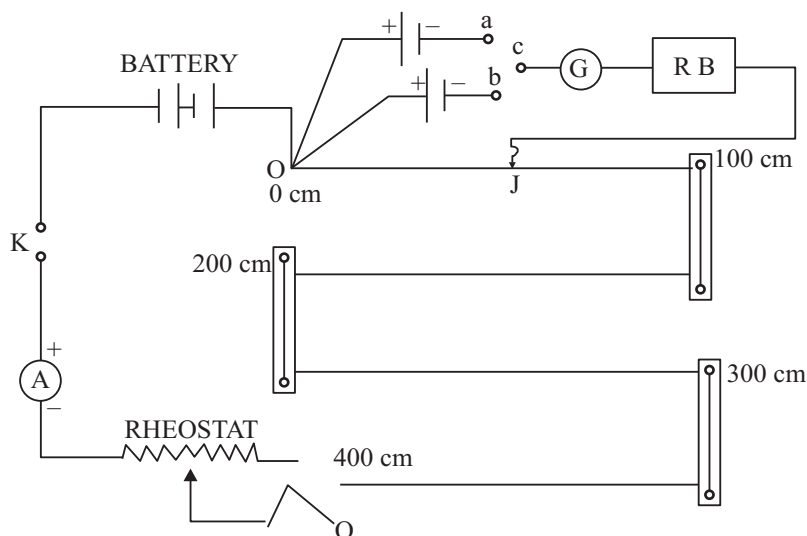

Fig. 21.1
- (i) Draw the circuit diagram in your copy as given in Fig. 21.1.